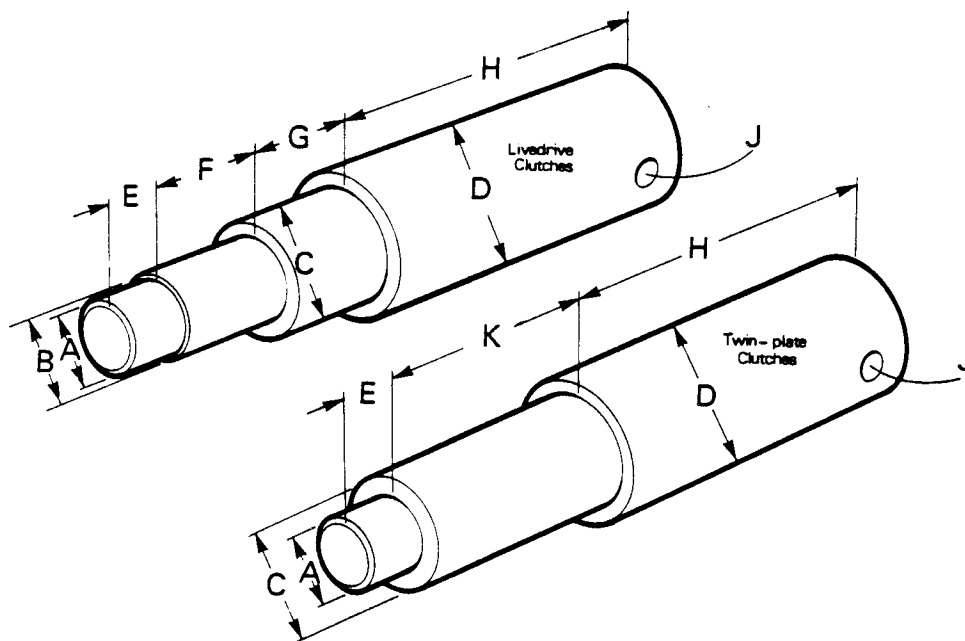

Figure 38. CLUTCH PLATE PILOT — LIVEDRIVE TRACTORS (EXCEPT 1200)
4. A mandrel, or pilot clutch shaft (see Fig. 38), will be required to centralise the driven plates as the clutch assembly is fitted to the flywheel. Insert this pilot shaft through the clutch cover bearing and fit transmission plate on to it (hub to flywheel side).